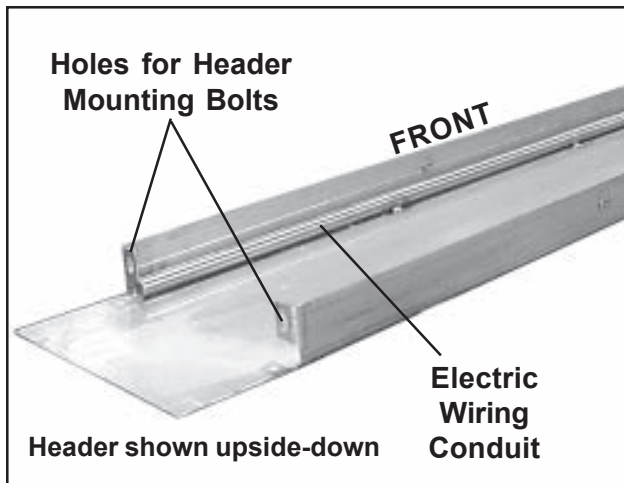

Figure 6. Typical Header
1. Set the header in place on top the two columns with the electric wiring conduit (Figure 6) toward the front.